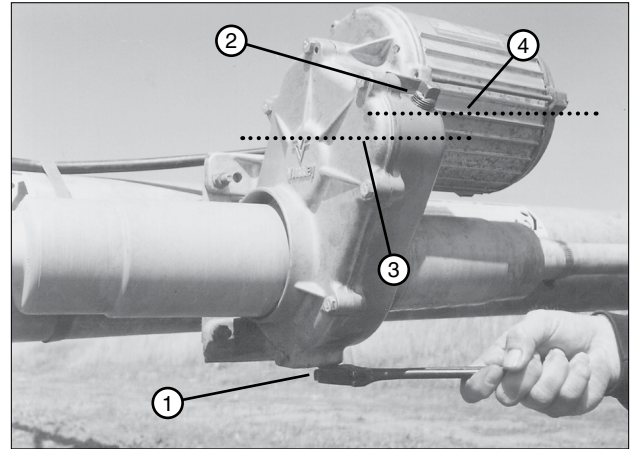

Figure 93-1 1. Drain Plug
1. Remove the drain plug and the fill plug. Drain the oil and install the drain plug. See Figure 93-1.
2. Fill the gearbox 1-7/8 in (48 mm) from the bottom of fill plug hole with Valley Gear Lube. The capacity of the gearbox is approximately 44 oz (1.3 liter). See Figure 93-1.